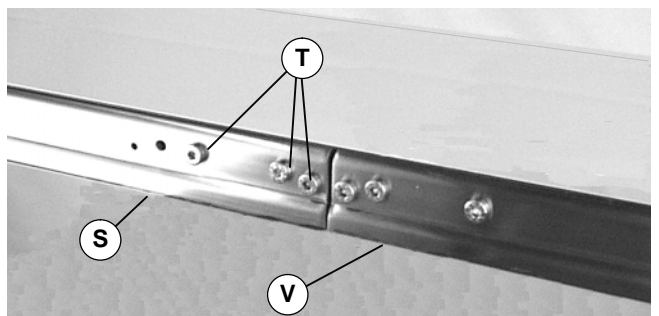

Figure 7
5. Join conveyor sections (S and V of Figure 7). Install screws (T) on both sides. Tighten to 7 Nm.